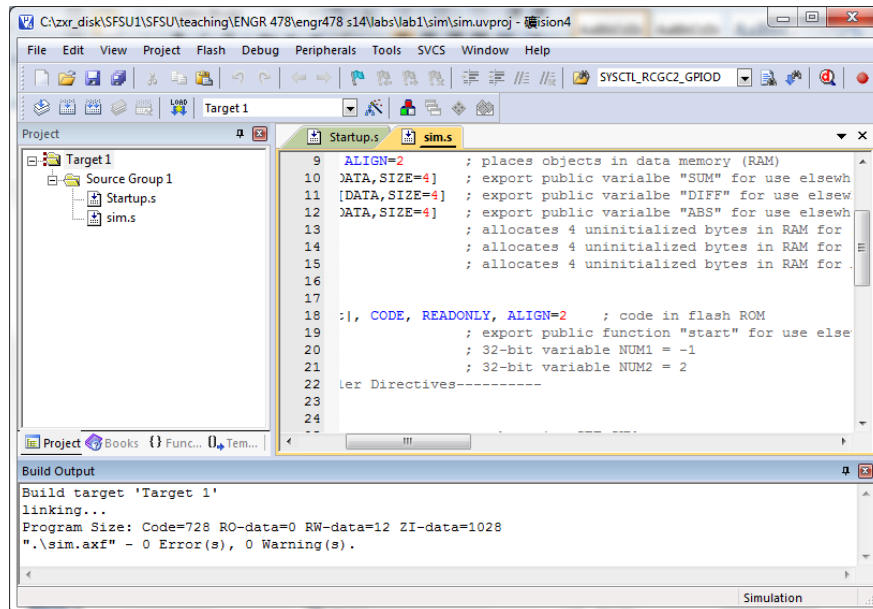

Figure 6
6. Compile the project by clicking *Project->Build target*. This should show 0 error and 0 warning in the *Build Output* window (see Figure 6).